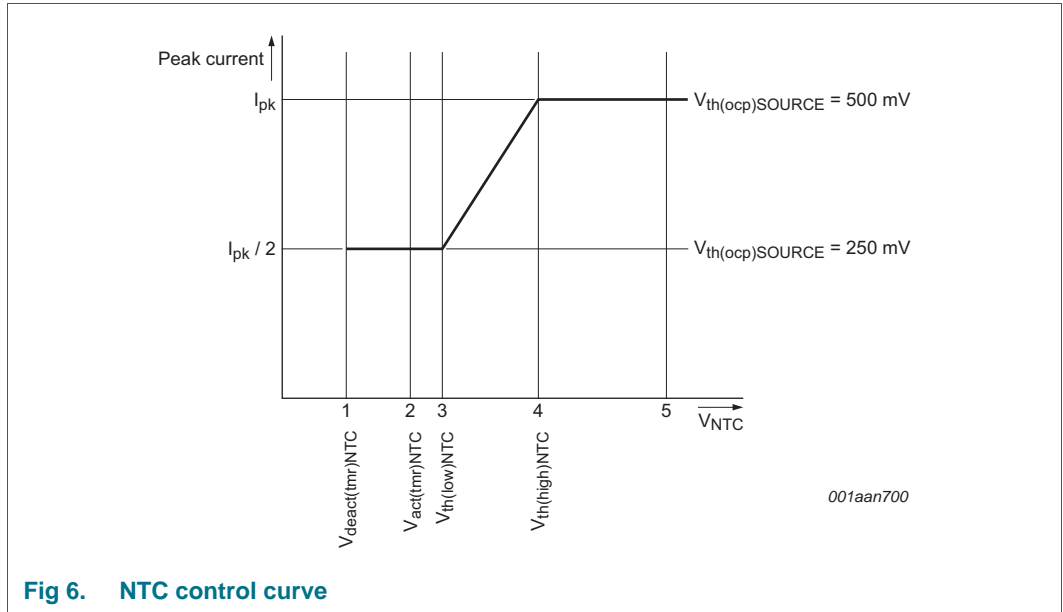

Fig 6. NTC control curve
The NTC pin can be used as a control method for LED thermal protection. Alternatively, the pin can be used as an input to disable/enable light output using a digital signal (PWM dimming). The pin has an internal current source that generates the current of $I_{offset(NTC)}$. An NTC resistor to monitor the LED temperature can be directly connected to the NTC pin. Depending on the resistance value and the corresponding voltage on the NTC pin, the converter reacts as shown in Figure 6.
When the voltage on the NTC pin is higher than $V_{th(high)NTC}$ see Figure 6 (4), the converter delivers nominal output current. When the voltage is lower than this level, the peak current is gradually reduced until $V_{th(low)NTC}$ is reached, see Figure 6 (3). The peak current is now half the peak current of nominal operation. When $V_{act(tmr)NTC}$ is passed, see Figure 6 (2) a timer starts to run to distinguish between the following situations:
- If the low-level $V_{deact(tmr)NTC}$ is not reached within time $t_{to(deact)NTC}$, Figure 6 (1) LED overtemperature is detected. The IC stops switching and attempts to restart from the HV pin voltage. Restart takes place when the voltage on NTC pin is higher than $V_{th(high)NTC}$, see Figure 6 (4). It is assumed that the reduction in peak current did not result in a lower NTC temperature and LED OTP is activated.
- If the low-level $V_{deact(tmr)NTC}$ is reached within the time $t_{to(deact)NTC}$, Figure 6 (1) it is assumed that the pin is pulled down externally. The restart function is not triggered. Instead, the output current is reduced to zero. PWM dimming can be implemented this way. The output current rises again when the voltage is higher than $V_{deact(tmr)NTC}$.
The NTC pin can be used to make a soft start function. During switch-on, the level on the NTC pin is low. By connecting a capacitor (in parallel with the NTC resistor), a time constant can be defined. The time constant causes the level on the NTC pin to increase slowly. When passing level $V_{th(low)NTC}$ Figure 6 (3), the convertor starts with half of the maximum current. The output current slowly increases to maximum when $V_{th(high)NTC}$ Figure 6 (4) is reached.